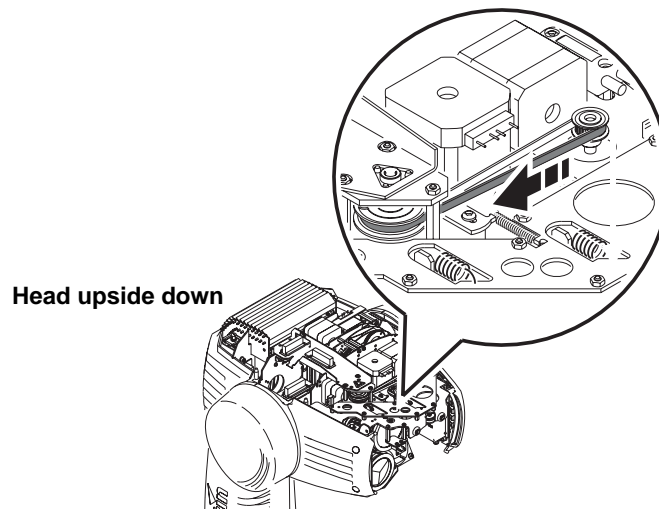

Figure 18: Moving the prism lens forward
5. Flip the head upside-down. Move the prism lens to its forward limit by pulling on its belt as shown in Figure 18.